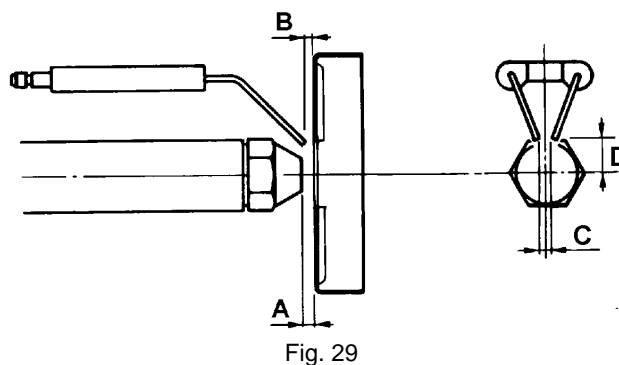

Fig. 29
- disassemble, check and clean of the combustion head. When re-assembling carefully observe the measures quoted in Fig. 29;
Before disassembling the nozzle and the electrodes, disconnect the cables CV (Fig. 27), measure the positions quoted in Fig. 29 and make a note in the table on Tab. 6.
Before disassembling the nozzle, measure the real position "A" (see Fig. 29) and make a note in the table below.